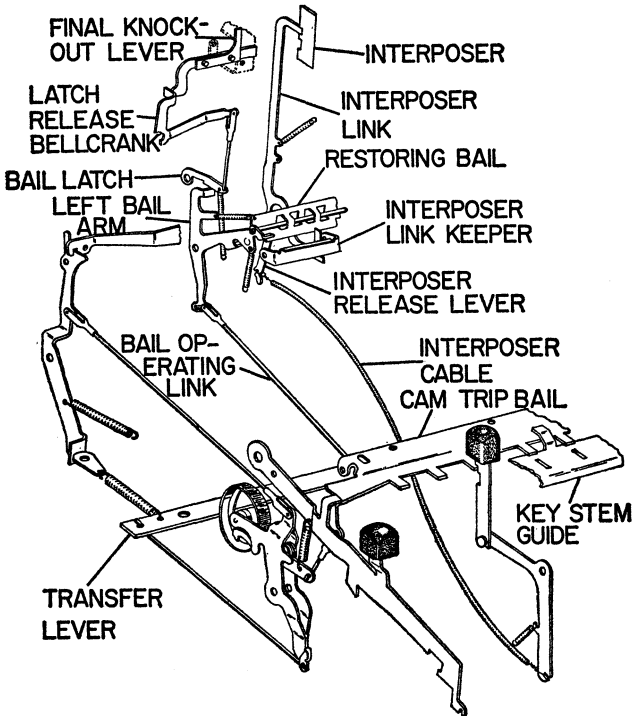

Figure 5. Decimal Tab Mechanism
8. HEIGHT OF CAM TRIP BAIL. Form the lug in the middle of the decimal tab key stem guide (Figure 5) to obtain a clearance of $\frac{1}{16}$ " between the fingers of the cam trip bail and the tops of the notches in the key stems. Insufficient clearance at this point may allow the cam to repeat.